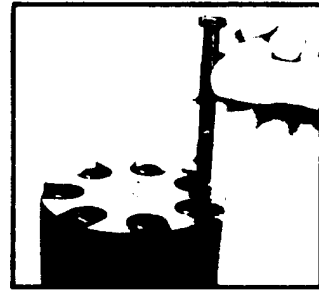

Figure 56
22. Install 7 bolts (2) into the assembly bolt holes finger tight, then torque the bolts to 22-26 foot pounds, (30-35Nm), in the sequence shown, using the appropriate torque wrench. SEE FIGURES 56, 57 and 58.